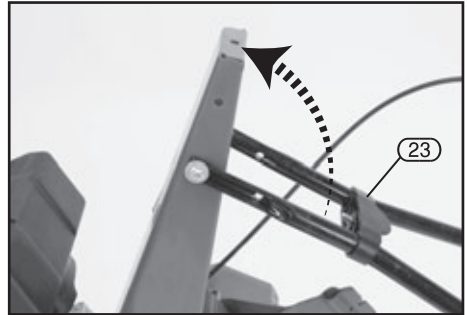

FIG.1
8.1 ATTACHING THE HANDLE BAR - FIG. 1 - 3